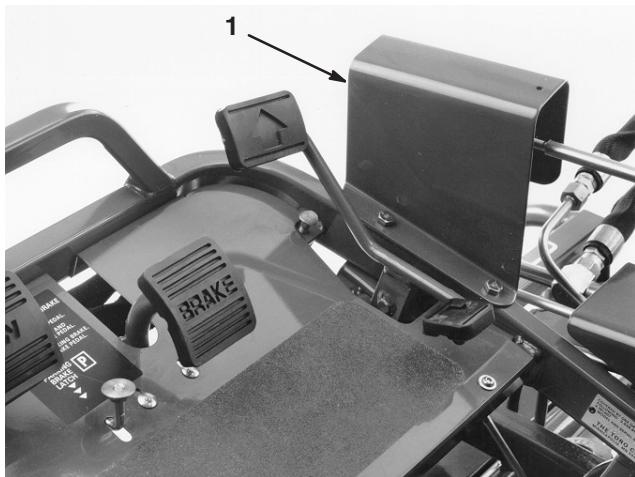

Figure 45
1. Place 1, 2 and 3 spools in neutral (center of travel) and remove the transfer rod guard from the foot panel (Fig. 45).